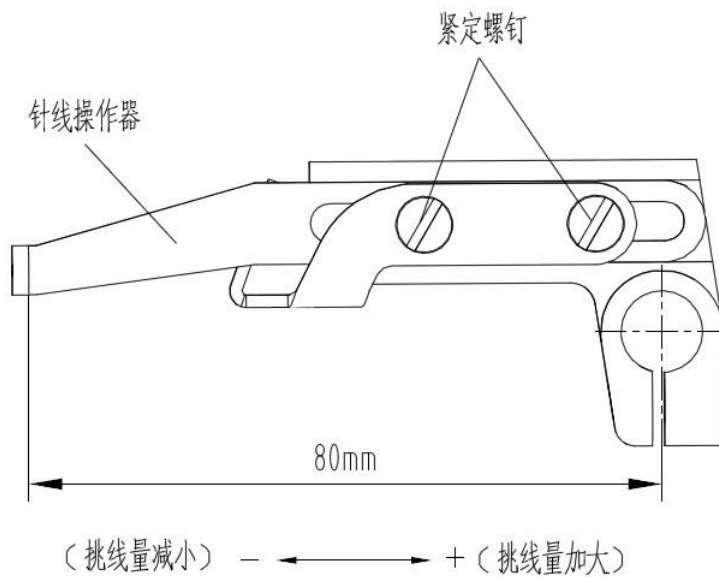

Figure8-2
2、松开紧定螺钉，左右移动针线操作器，如图 2 所示，把针线操作器边缘到摆动挑线杆轴的中心调整至 80mm，然后拧紧紧定螺钉，针对不同布料时可通过调节针线操作器边缘到摆动挑线杆轴的中心的距离来调节挑线量，针线操作器边缘到摆动挑线杆轴的中心的距离加大，挑线量减小，针线操作器边缘到摆动挑线杆轴的中心的距离减小，挑线量加大（图 8-2）。
2、Release set screw , shuffling the needle thread operator , showed by figure 8-2 , change the distance between margin of needle thread operator and center of shuffling release pole rod to 80mm, then tight the set screw. For various type of fabric, we can adjust the thread taking up length by change this distance. The distance between margin of needle thread operator and center of shuffling release pole rod increase, the thread taking up length decrease. Also, the distance decrease, the thread taking up length increase.